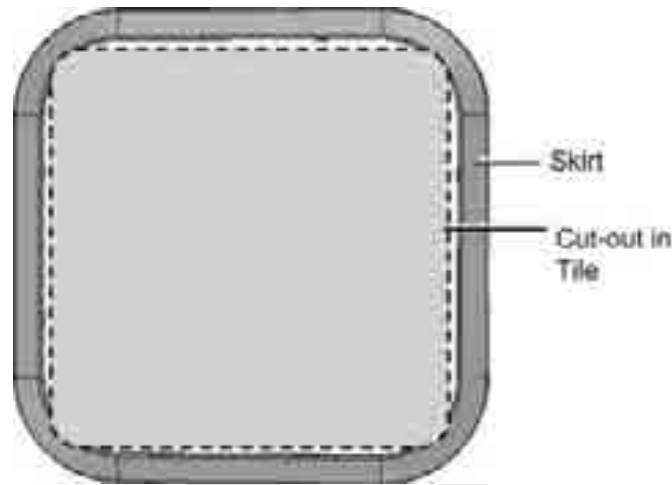

Figure 5-67. Skirt for Mid-Mount Cut-Out
1. For mid-mount only - using the inner circumference of the RAU Skirt (provided) as a template, cut out an opening in the acoustic ceiling tile for the RAU. See Figure 5-67.